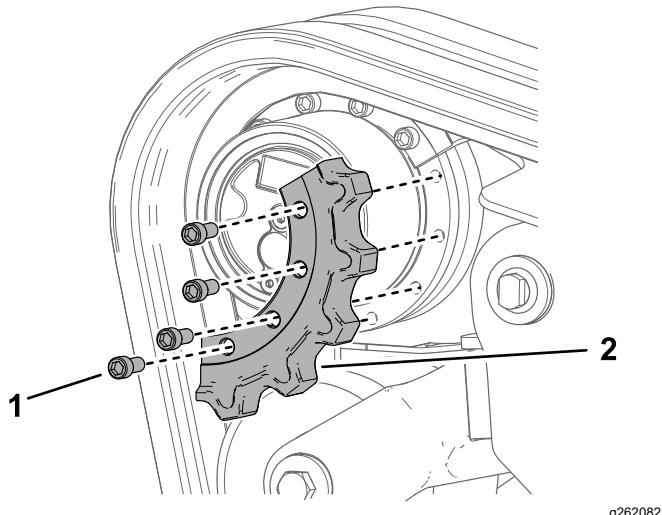

Figure 68
- 1. Screw (4)
12. Remove the sprocket segment (Figure 68).
7. Apply thread-locking compound to the bolts of 1 drive sprocket segment that you removed and install the sprocket segment (Figure 68). Torque the bolts to 247 to 301 N·m (182 to 222 ft-lb).